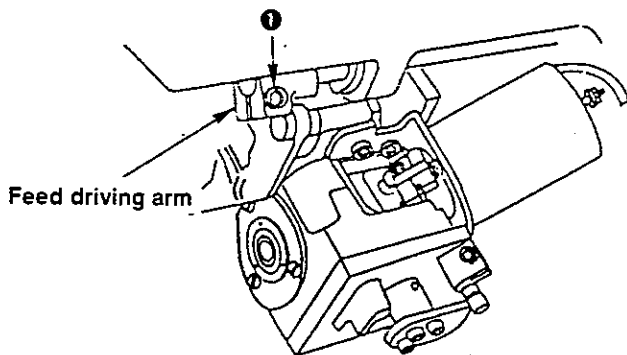

Fig. 3
<p>4) Height of feed dog</p> <ol style="list-style-type: none"> 1. Set the stitch dial to "6" on the scale. (Fig. 2) 2. Slightly loosen clamping screw ❶ in the feed driving arm. (Fig. 3) 3. Align the graduation "L" on the handwheel with the handwheel pointer. (Fig. 2) 4. Adjust the height of the feed dog to 0.5 to 0.6 mm. (Fig. 1) 5. Tighten clamping screw ❶ in the feed driving arm. <p>(Caution) Tighten the clamping screw with a tightening torque of 60 to 70 kgf.cm.</p>	<ul style="list-style-type: none"> ☆ If the height of the feed dog is excessive : The material may be fed backward under the normal feed mode. ☆ If the height of the feed dog is insufficient : The stitch length may become shorter than the specified value. <p>3' Refer to "(1) Kinds and names of graduations on the handwheel" on page 5.</p>